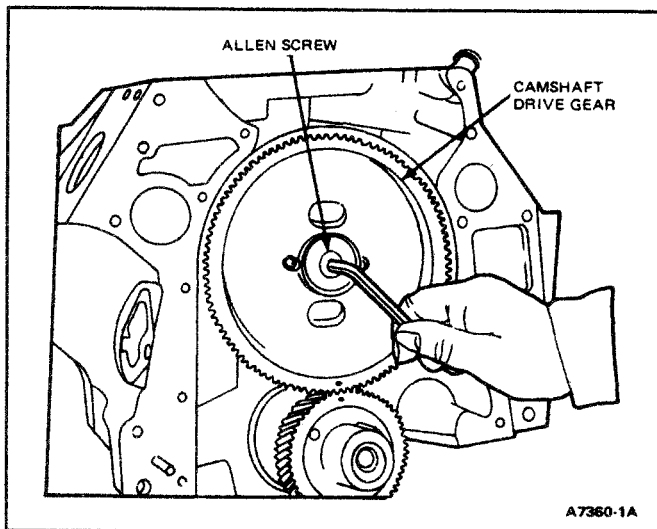

FIG. 43 Camshaft Drive Gear Allen Screw
6. Remove bolts attaching injection pump adapter to engine block, and remove adapter (Fig. 43).
13. Remove camshaft allen screw (Fig. 43).